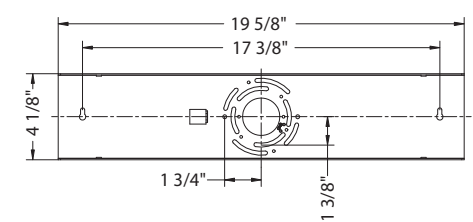

Fig. 3 Switch
4. Remove the canopy screw (C) from the ceiling plate.
5. Set color temperature at this stage. The fixture can switch between three color temperatures (3000k, 3500k, 4000k), which can be adjusted to your preference using the 3CCT switch (Fig. 3) mounted in the canopy.
CONNECTING THE WIRES (Fig. 2, Fig. 3)
10. Due to limited space within the canopy, shorten the cable as necessary to make the installation easier. Make sure to identify and label all the wiring properly before any trimming/shortening. (Fig. 3)
12. Connect the driver's input/output wires to junction box wires and 3CCT switch wires as shown in Fig. 2/Fig. 3. Ensure all wire connectors (A), (B) are secure. Connect the fixture's ground wire to the ground in the junction box; this will be either a green wire or a bare copper wire. After wires are connected, tuck them carefully inside the junction box.
(OPTIONAL) DIMMER WIRING (Fig. 2, Fig. 3)